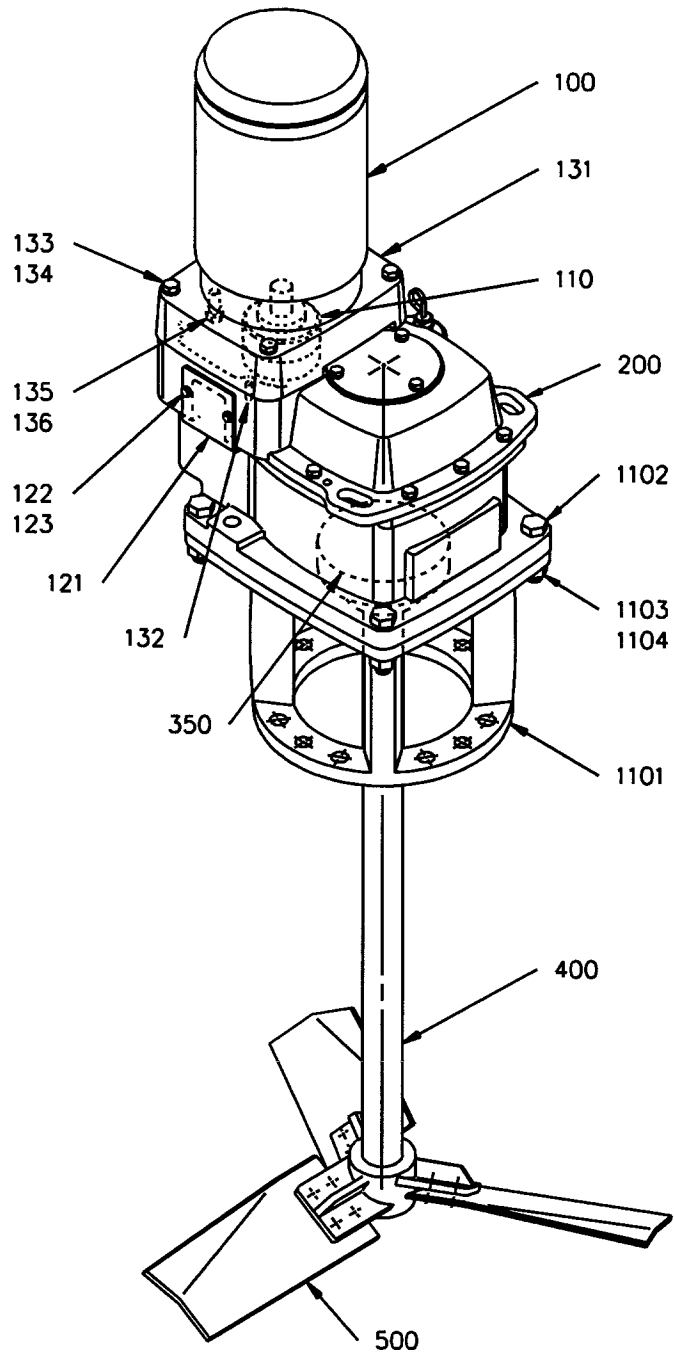

Figure 4: Model GTP Agitator Assembly
6. For the style GTP (pedestal) units (*Figure 4, page 11*), assemble the pedestal [1101] onto the agitator support structure or tank. Install mounting bolts (supplied by others) and torque to the value shown in *Table 5*.
16. For the GTP unit, install the handhole cover bolts and lockwashers [1106, 1107] into the pedestal [1101]. Lower the agitator drive assembly (*Figure 4, page 11*) onto the pedestal and mount with bolts, lockwashers and nuts [1102, 1103, 1104]. Torque bolts to the value shown in *Table 5*. Install handhole covers [1105] onto pedestal. Attach flatwasher, lockwasher and hex nut [1108, 1109, 1110] to previously installed bolt and lockwasher [1106, 1107] and tighten.